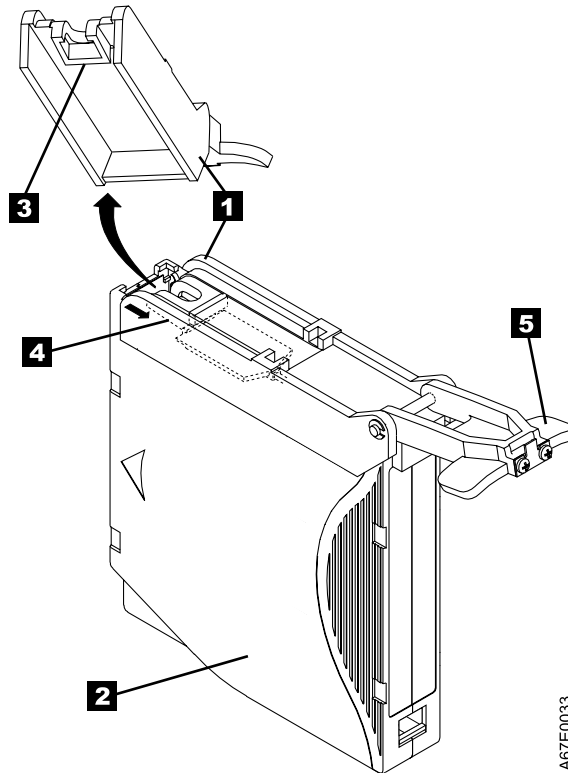

Figure 386. Attaching the leader pin attach tool to the cartridge. To hold the cartridge door open, hook the tool into the door and pull the tool back.
1. Attach the leader pin attach tool (**1** in Figure 386) to the cartridge (**2**) so that the tool's hook (**3**) latches into the cartridge's door (**4**). Pull the tool back to hold the door open, then slide the tool onto the cartridge. Open the tool's pivot arm (**5**).